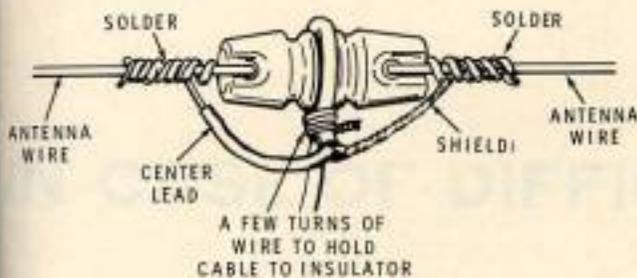

Figure 11
5. Refer to Figure 11 and fasten the prepared end of the cable to the center insulator (for support). Then solder the center lead of the cable to the antenna wire on one side of the insulator. Solder the shield to the antenna wire on the other side of the insulator.